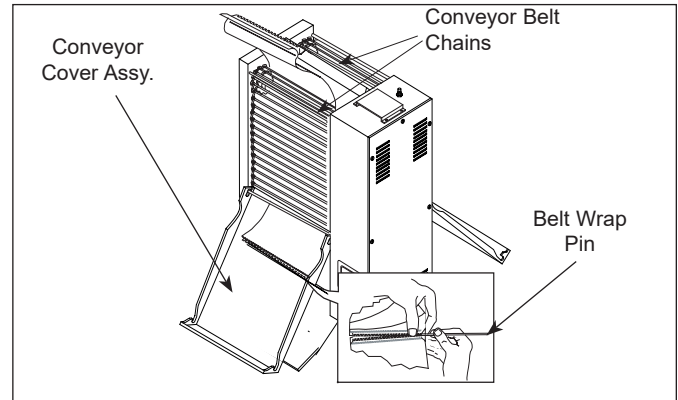

Figure 11. Removing Belt Wrap
3. Open both Conveyor Covers and pull the Belt Wrap Pin out of the “zipper” (Figure 11).
5. Clean both Conveyor Belt Chains just as you would clean the Belt Wraps during daily cleaning (Figure 11).